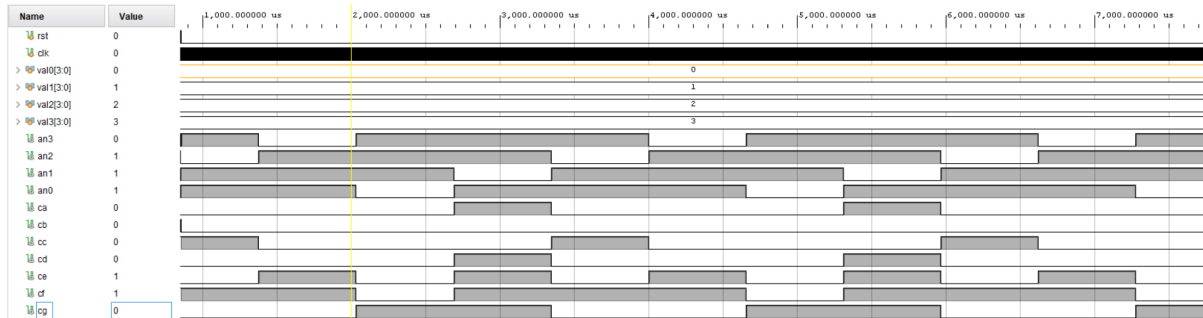

Figure 11: Simulator Output
- 3.8 Click on **Run Simulation > Run Behavioral Simulation** under the *Project Manager* tasks of the *Flow Navigator* pane. The test-bench and source files will be compiled and the Vivado simulator will run if no error occurs. You will see a simulator output. Click on the Zoom Fit () button and you will see the output similar to **Figure 11**. The signals can be repositioned by clicking and dragging. Study the waveforms and ensure that the outputs are correct for the four SSDs at the correct time interval.